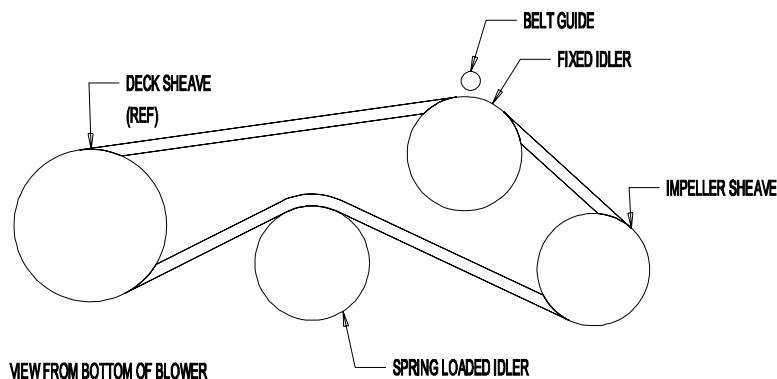

FIGURE 8
- 3.6.1. Remove the belt guide on the blower (Item 11). (See Figure 8)